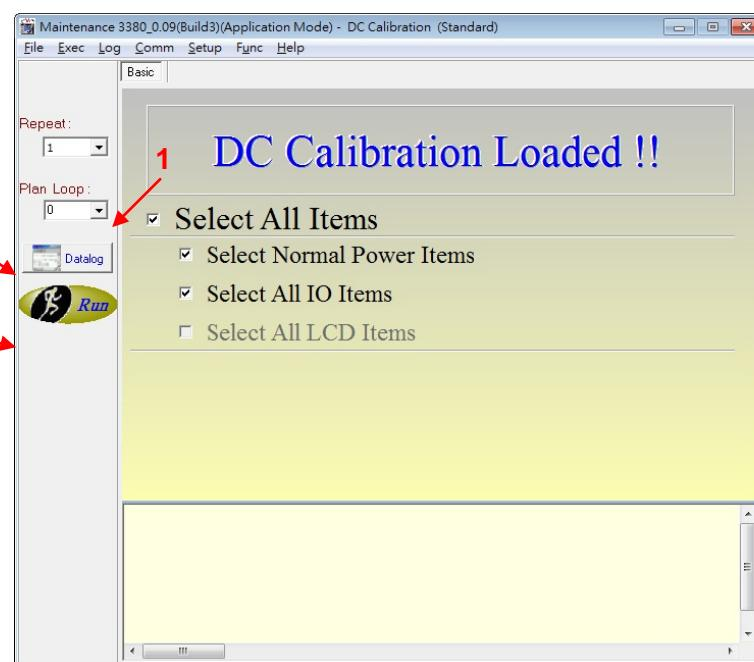

Figure 3-14 DC Calibration Loaded Window
- (5) The DC Calibration Maintenance window as *Figure 3-14* shows which contains the following: